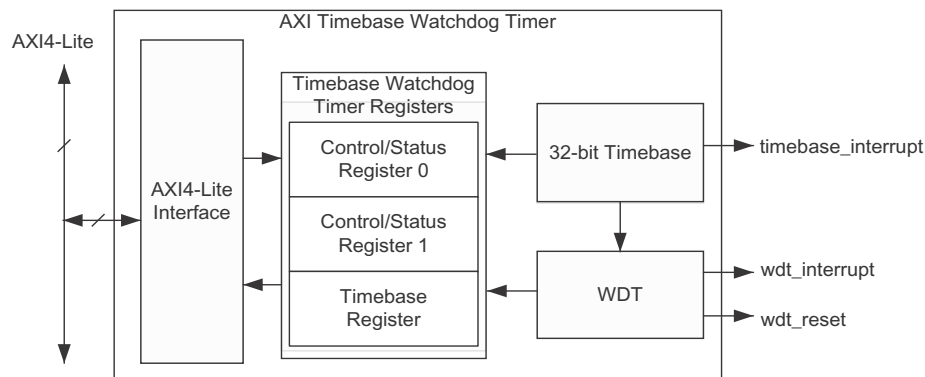

Figure 1-1: AXI Timebase Watchdog Timer Block Diagram
The top-level block diagram for the AXI Timebase Watchdog Timer (WDT) is shown in Figure 1-1.
- **Timebase Watchdog Timer Registers** – Timebase Watchdog Timer register module includes all memory-mapped registers (as shown in Figure 1-1). It consists of a 32-bit Control/Status register 0, a 32-bit Control/Status register 1 and a 32-bit Timebase register (TBR).